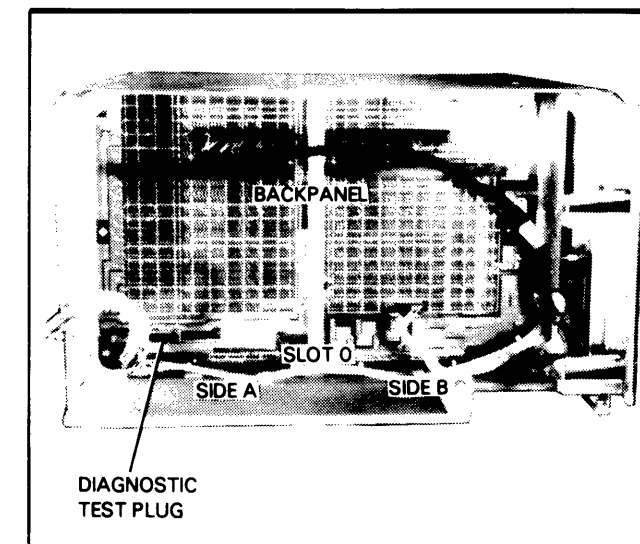

Figure 6.5 Diagnostic Test Plug
2. Check that the diagnostic test plug is in the correct location with the "RUN" label up (see Figure 6.5). If it is, continue to step 3; otherwise:
5. Make sure the diagnostic test plug is inserted in the correct location with the "RUN" label up (see Figure 6.5).